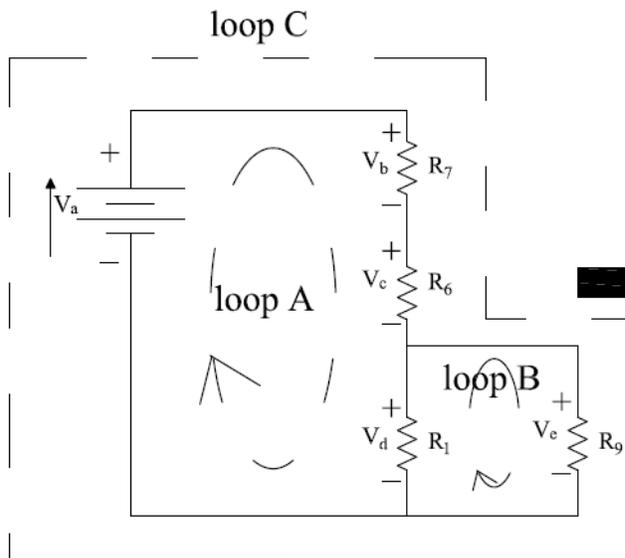

Fig.2a Circuit to study the 2^{ed} Kirchhoff law
The circuit shown in Fig.2a. now with clockwise direction.
3. If other resistors values are used for the circuit of Fig.2a in loop A, so that: